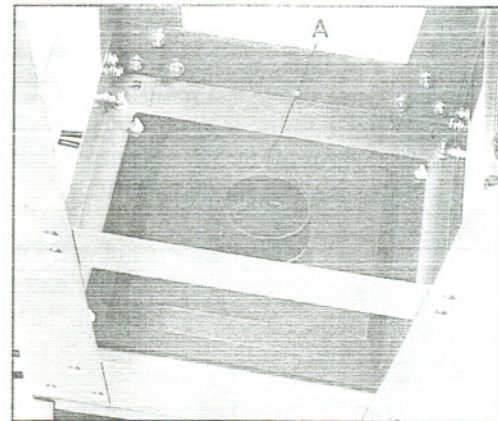

Fig. 4
3. Place dust hood (A, Fig. 4) onto stand and align holes in stand with holes in the dust hood. Attach the dust hood to the stand using four M6x20 hex cap bolts, four M6 flat washers, four M6 lock washers, and four M6 hex nuts. Tighten dust hood hardware firmly.